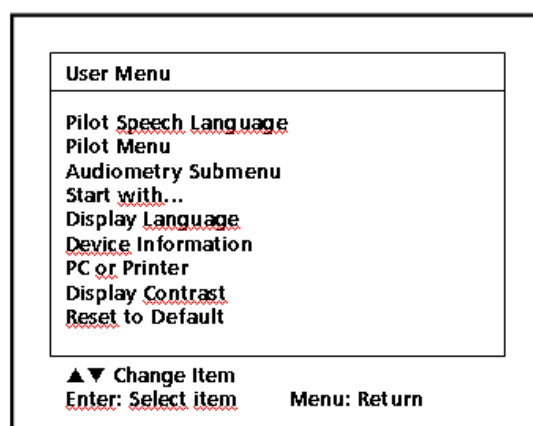

Figure 7
Press the **MENU** button (16) again to exit the respective menu or user menu (Figure 3). After leaving the user menu you will return to the test you last selected. The possible settings of the Pilot are as shown in Fig. 7 and will be described more detailed in the following.